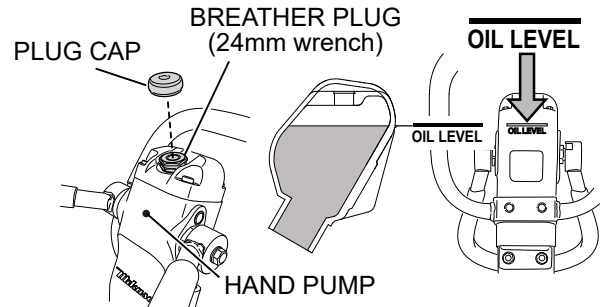

Figure 26. Removing Plug/Breather Cap
4. With the handle in the operating position, remove the plug cap from the hydraulic pump (Figure 26).
10. Pour hydraulic oil (550 cc) to the hydraulic pump breather plug hole (Figure 26).